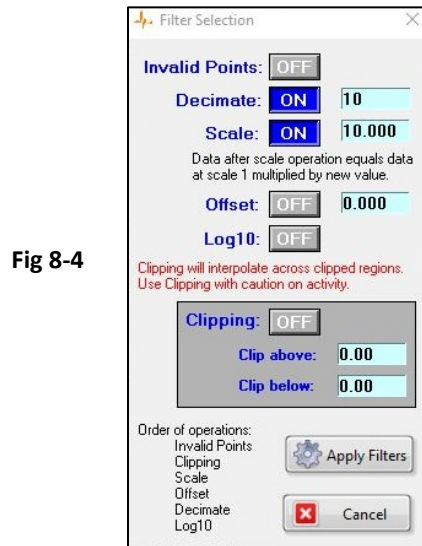

Fig 8-4
- Single data series graph - Fig 8-4 should appear
- See Decimate and Scale in Fig 8-4
- Enter the number(N) of consecutive data points to be averaged per “bin”